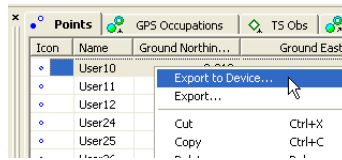

Figure 8-13. Export Data to a Device
- Select the desired data and click **Job ▶ Export to Device**, or press **Shift+F4**, or click the **Export to Device** Toolbar button, or right-click and click **Export to Device** on the pop-up menu (Figure 8-13) to export data to the coordinate file
format and send the created file to the Total Station (Figure 8-13).